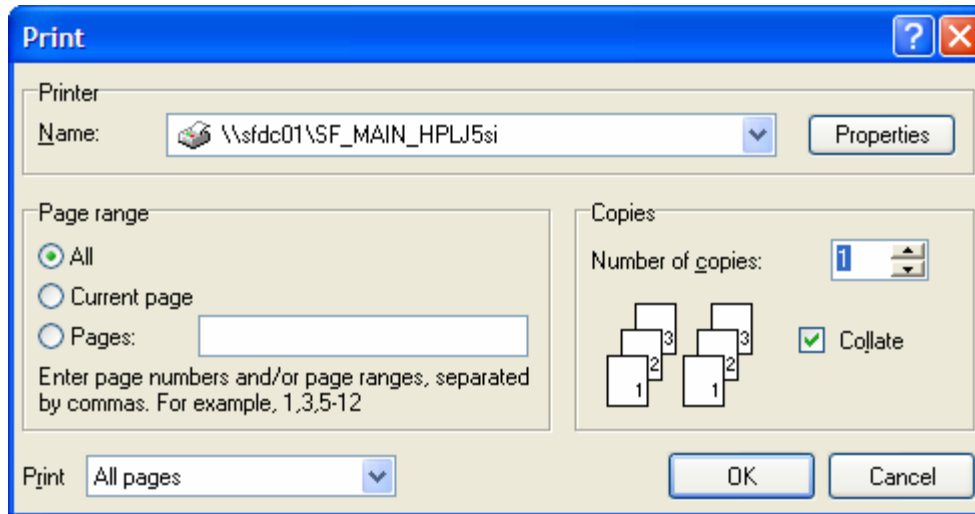

Figure 8.6 Print dialog box
Open the Print dialog box (Figure 8.6).
- ⇒ The Print dialog box appears (Figure 8.6).